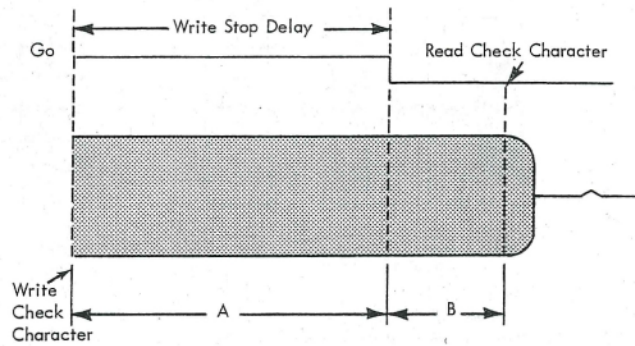

Figure 3-8. Stop Envelope
6. Check forward start waveform and attempt to adjust start time to 2.2 ms. If glitching of the envelope occurs, decrease start gap until waveform is free of it. Glitching or breaking in the start waveform at about 2 ms from the rise of GO is caused by one of two conditions: (1) too large a drive gap on the driving prolay; or (2) too small a drive gap on the nondriving prolay, resulting in an overshoot through neutral to the drive capstan.
The time required to pass a given character from the write head to the read head (about .3") is 2.7 ms for a 729III or IV and 4.0 ms for a 729II. GO is held up by the control unit for 3.0 ms (II), 1.7 ms (III), or 2.0 ms (IV) after WRITE CHECK CHARACTER (A in Figure 3-8). This delay requires that tape remain at full speed for at least 1.0 ms (II and III) or .7 ms (IV), after the fall of GO, to insure reading every written character (B, Figure 3-8).